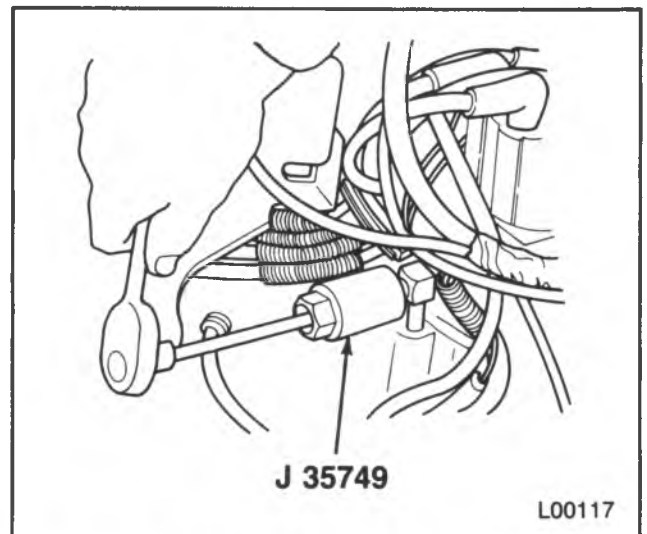

Figure 10 — Oil Pressure Gage Sensor Replacement
3. Sensor (Figure 10).
Install or Connect (Figure 10)